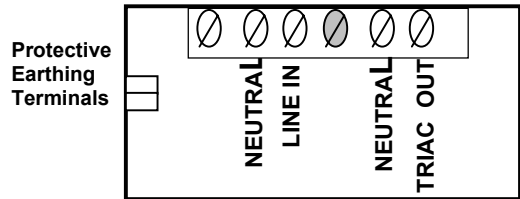

Figure 5
- 6. Connect each wire to the appropriate locations noted in the table below and secure the wires in the terminal block and protective earthing terminal by turning each screw clockwise. *(Refer to the MX001 box or to figure 5 for the order of the terminals for the TRIAC wires.)*